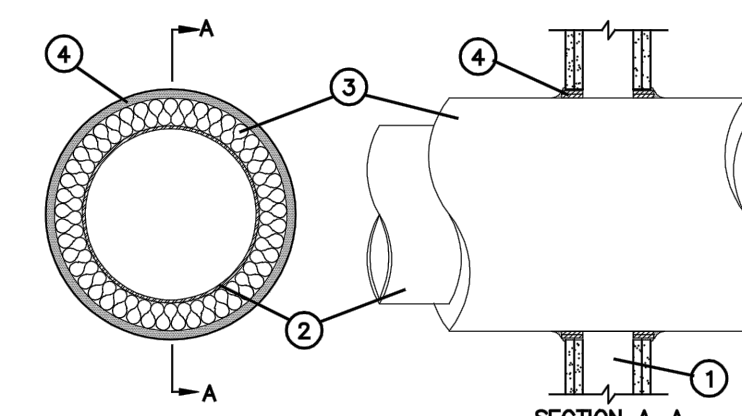

Figure 3
- Max 12" Steel or Iron pipe insulated with up to 3" of fiberglass or mineral wool pipe insulation. See Figure 3 for more information.